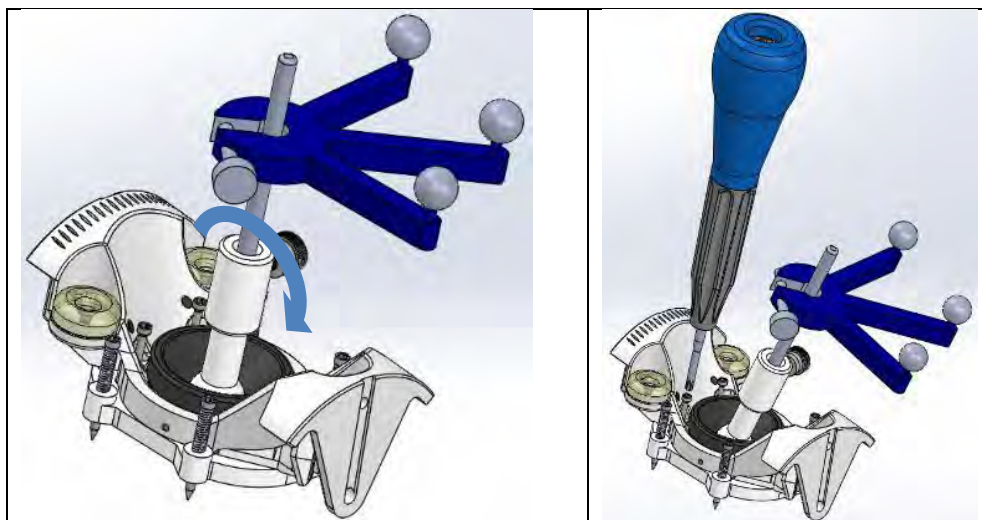

Figure 5: Entry Point Locator Stem being pivoted to make access to screws easier. Universal tracker is shown, but Probe may also be used.
7. Begin securing the Bone Screws to the skull through the scalp. Using the Screwdriver supplied in the SMARTFrame Array Kit, mount the Scalp Mount Base with the three (3) pre-mounted self-drilling screws to the skull. The Entry Point Locator stem may be moved out of the way for easier access to the screws. **See Figure 5.**